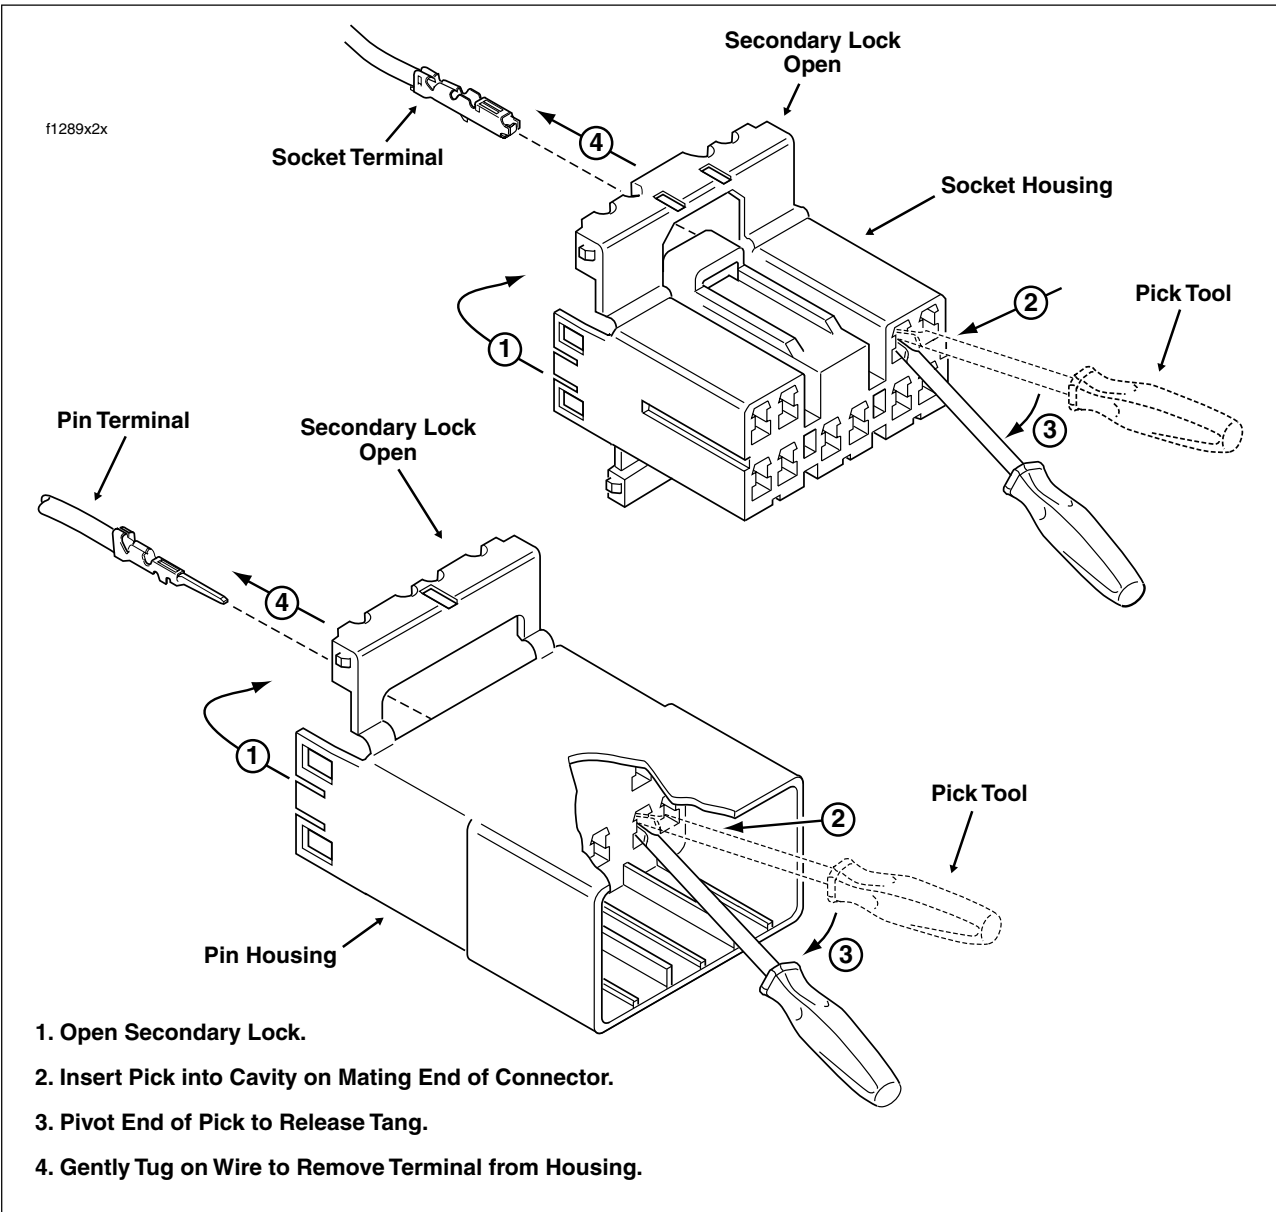

Figure B-12. Release Tang and Back Out Terminals
5. See Figure B-12. With the flat edge against the terminal, insert the pick (Snap-On TT600-3) into the cavity until it stops. Pivot the end of the pick away from the terminal and gently tug on wire to pull terminal from chamber. Do not tug on the wire until the tang is released or the terminal will be difficult to remove. A "click" is heard if the tang